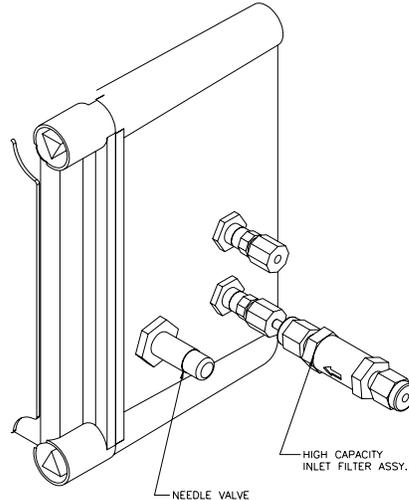

Figure 3. Needle Valve Location
6. See Figure 3. The flow rate is set by adjusting the needle on the 5000TOCe Sensor. NOTE: Clockwise (CW) to decrease flow, counterclockwise (CCW) to increase flow.